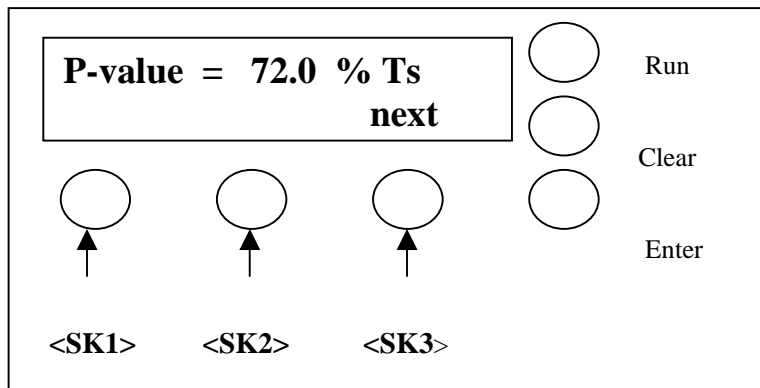

Figure 6
The parameters that set up the microwave system and allow the user to perform the required operations are accessed through the keypad located on the front panel of the Microwave Transmitter (Figure 6). There are six (6) buttons, which allow the user to interface with the menu driven software that run the HK systems.